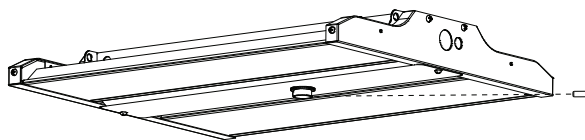

FIG. 1
1. Remove the set screw from the round c-Max™ USB-C receptacle (see **FIG. 1**).